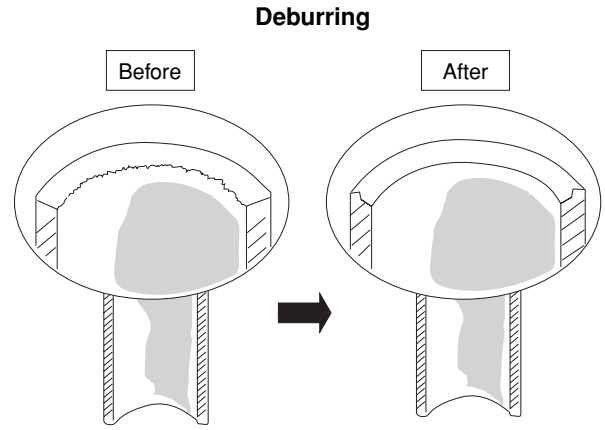

Fig. 7-1
- (1) Cut the copper tube to the required length with a tube cutter. It is recommended to cut approx. 30 – 50 cm longer than the tubing length you estimate.
- (2) Remove burrs at each end of the copper tubing with a tube reamer or file. This process is important and should be done carefully to make a good flare. Be sure to keep any contaminants (moisture, dirt, metal filings, etc.) from entering the tubing. (Figs. 7-1 and 7-2)